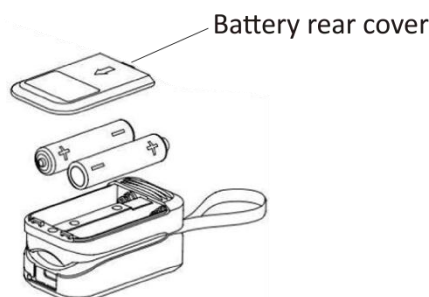

Figure 4: Installing Batteries
- The finger should be placed properly (see figure 4 of this manual), or else it may cause inaccurate measurement.